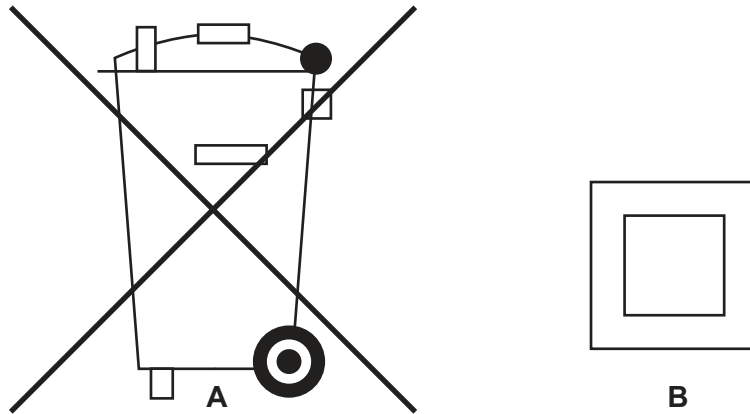

Fig. 1.1
- 1 The plastic casings of electric tools often include symbols on them. State the meaning of the symbols shown in Fig. 1.1.